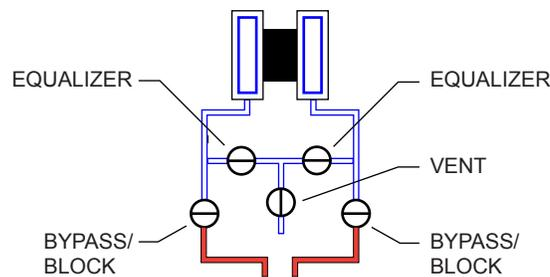

Figure 2.15—Valve positions for zero offset
1. Close the bypass valves to isolate the pressure below the manifold (Figure 2.15).